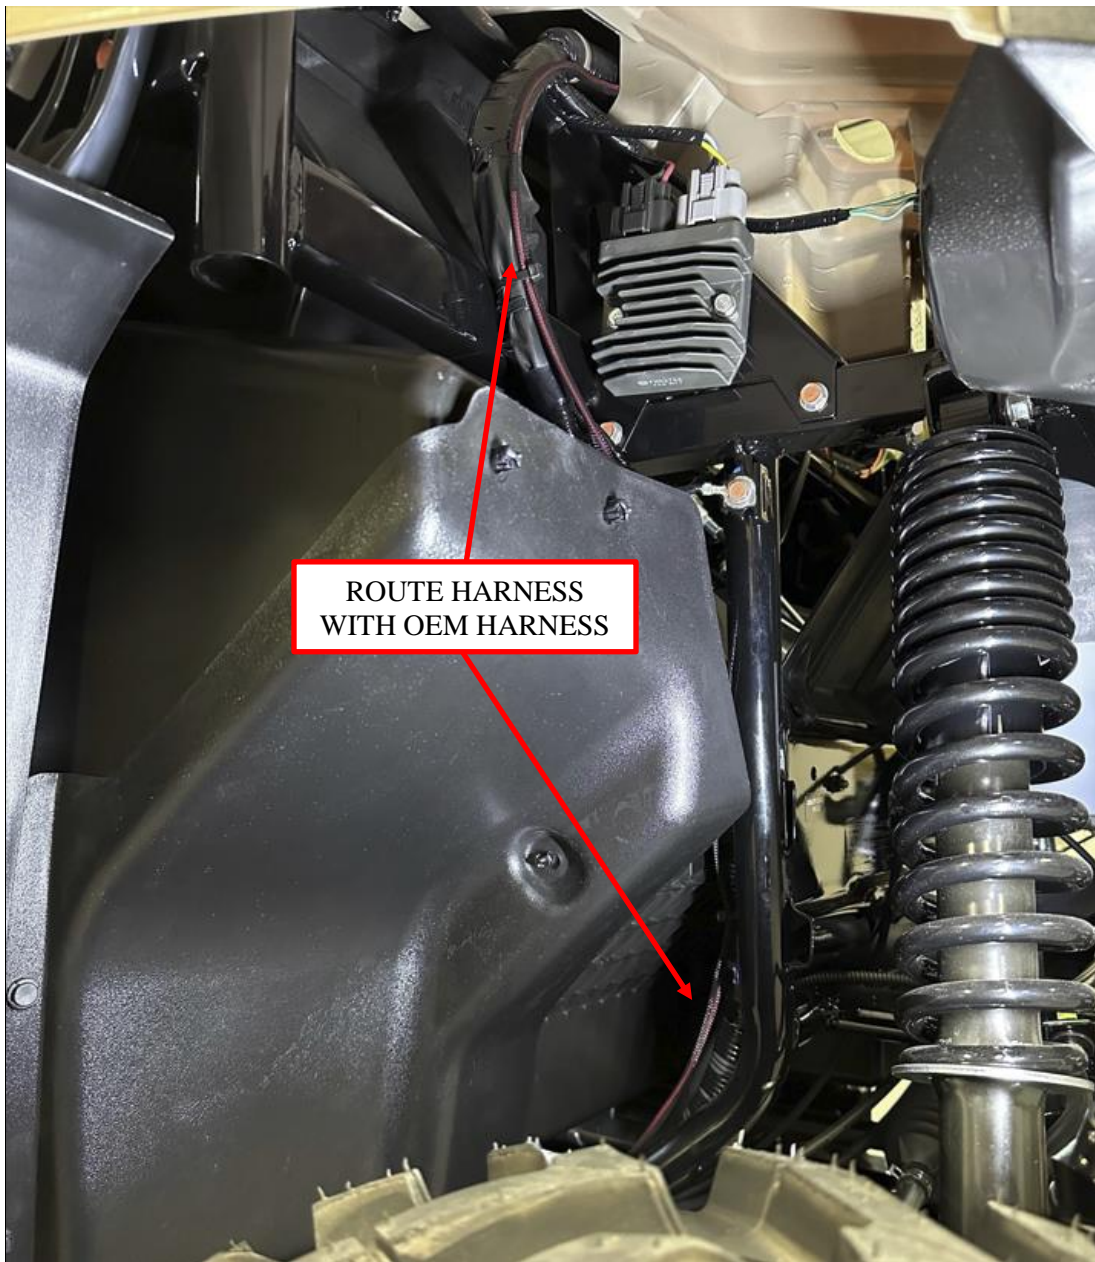
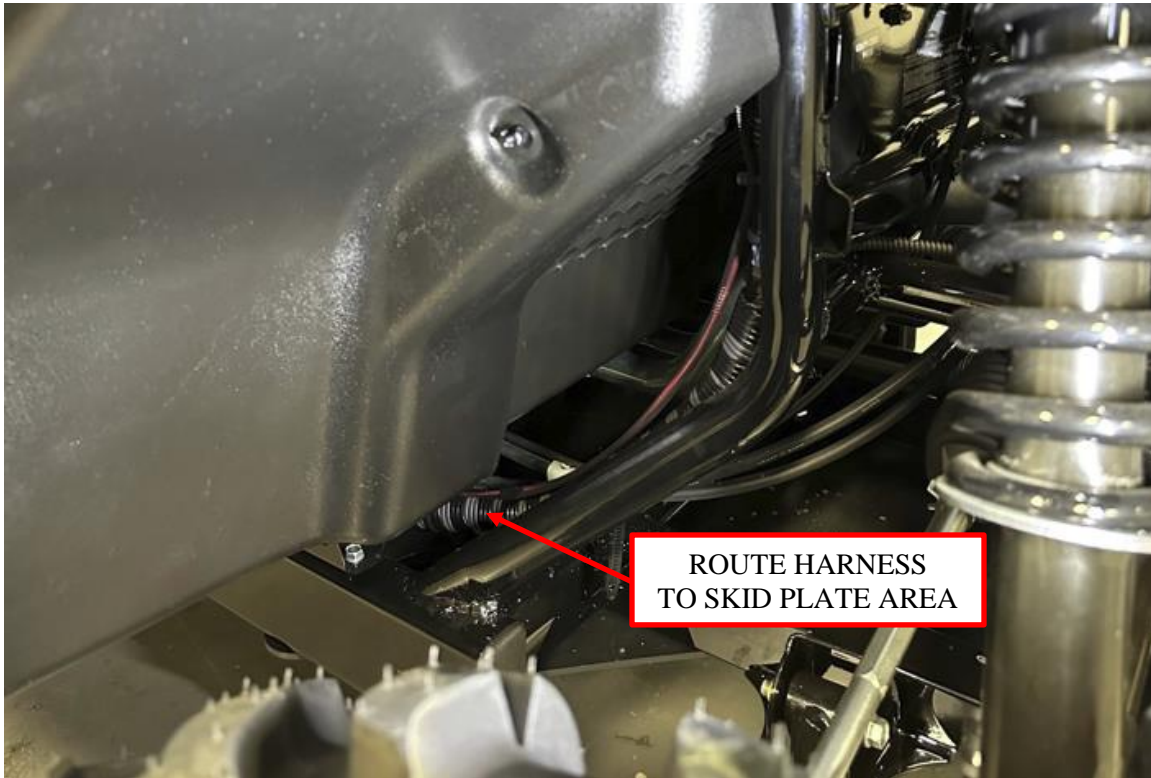

Figure 13: Battery harness routing along OEM wire harness.
Figure 14: Battery harness routing to skid plate area.
14. Route the battery harness into the opening and along the main OEM wire harness all the way to the lower frame rail and skid plate area. See Figure 13 and Figure 14. Note: The view for both figures is from the front, passenger wheel well.